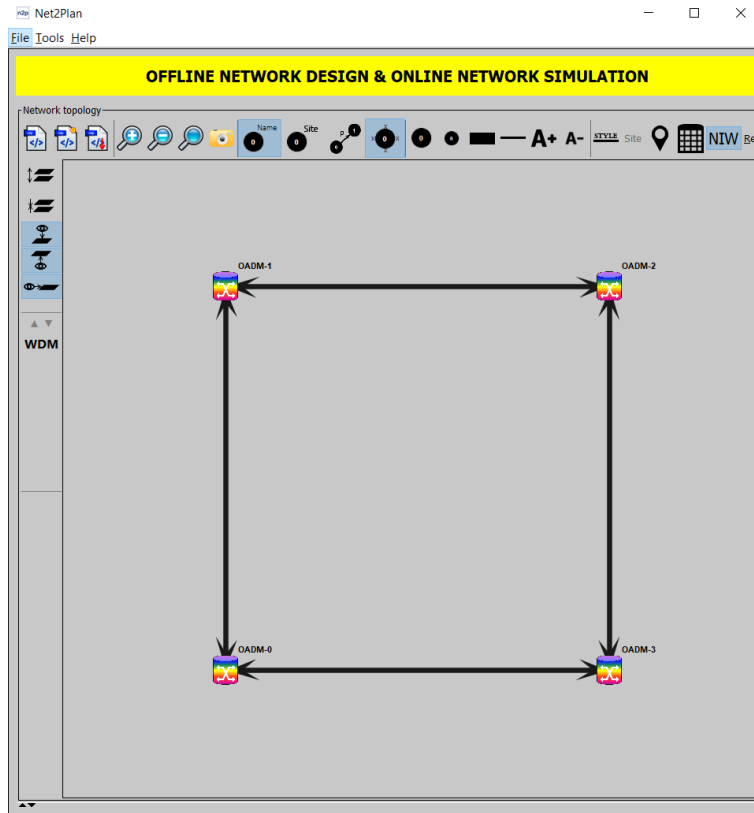

Figure 1: Ring WDM architecture.
In this section we create the WDM plant that will be later used for our line engineering studies. The network is composed of four Optical Add/Drop Multiplexers (OADMs) interconnected in a ring topology, as the one shown in Fig. 1.
- Add four nodes (OADMs) to the design in any positions (e.g. as those in Fig. 1), right-clicking in the topology panel.